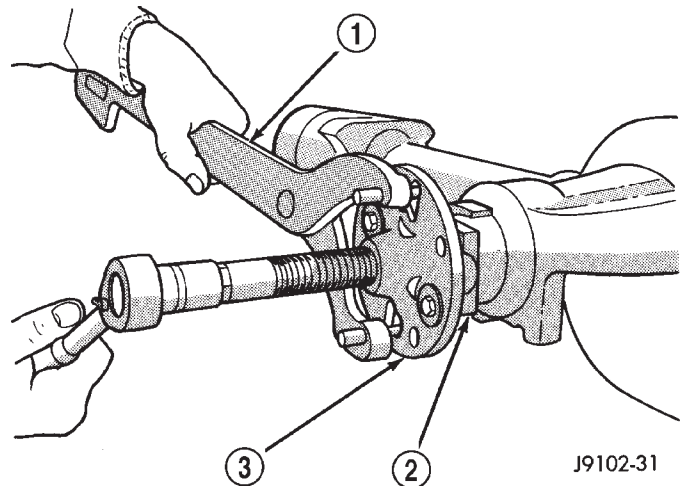

Fig. 15 Pinion Yoke Removal
- (1) Raise and support the vehicle.
- (2) Remove wheel and tire assemblies.
- (3) Remove brake rotors and calipers. Refer to Group 5, Brakes, for proper procedures.
- (4) Mark the propeller shaft and pinion yoke for installation reference.
- (5) Remove the propeller shaft from the yoke.
- (6) Rotate the pinion gear three or four times.
- (7) Measure the amount of torque necessary to rotate the pinion gear with a (in. lbs.) dial-type torque wrench. Record the torque reading for installation reference.
- (8) Using Holder 6958 to hold the pinion yoke, remove the pinion nut and washer.
- (9) Use Remover C-452 and Wrench C-3281 to remove the pinion yoke (Fig. 15).
- (10) Use a suitable pry tool or a slide hammer mounted screw, remove the pinion seal.
- (11) Remove the front pinion bearing using a pair of suitable pick tools to pull the bearing straight off the pinion gear shaft. It may be necessary to lightly tap the end of the pinion gear with a rawhide or rubber mallet if the bearing becomes bound on the pinion shaft.
- (12) Remove the collapsible spacer.
- (8) Remove differential assembly from axle housing.
- (9) Using Holder 6958 to hold yoke, remove the pinion nut and washer.
- (10) Using Remover C-452 and Wrench C-3281, remove the pinion yoke from pinion shaft (Fig. 15).